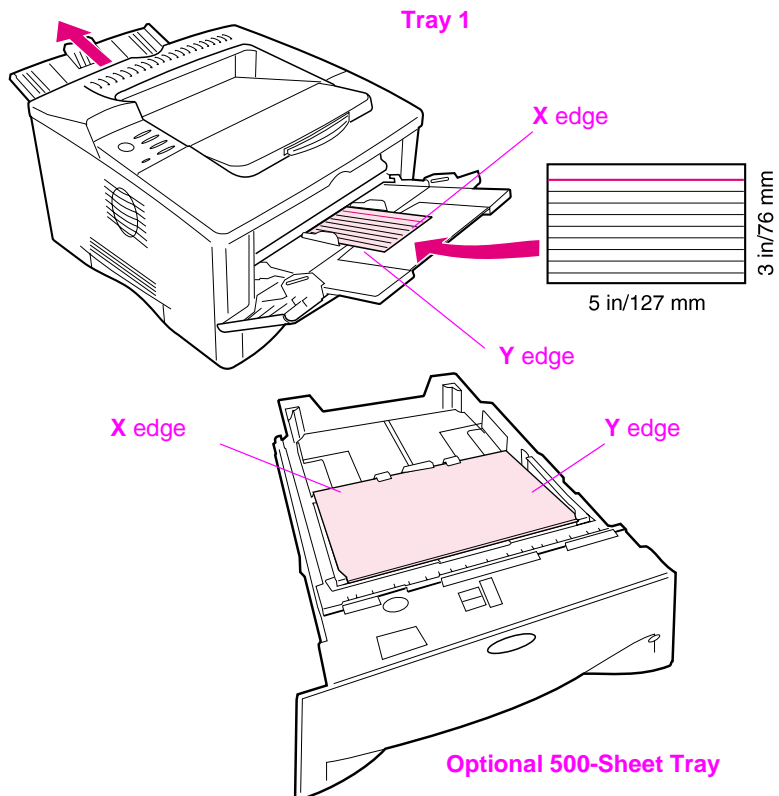

Figure 17 Printing Custom-Size Paper
- 3 From the Printing Menu, set the X dimension (the front edge of the paper) as shown in Figure 17. The X dimension can be 3 to 12.28 inches (76 to 312 mm) for Tray 1 or 8.2 to 11.7 inches (148 to 297 mm) for the 500-sheet tray (optional). Set the Y dimension (the side edge of the paper) as shown in Figure 17. The Y dimension can be 5 to 18.5 inches (127 to 470 mm) for Tray 1 or 5.8 to 17 inches (210 to 432 mm) for the 500-sheet tray (optional).